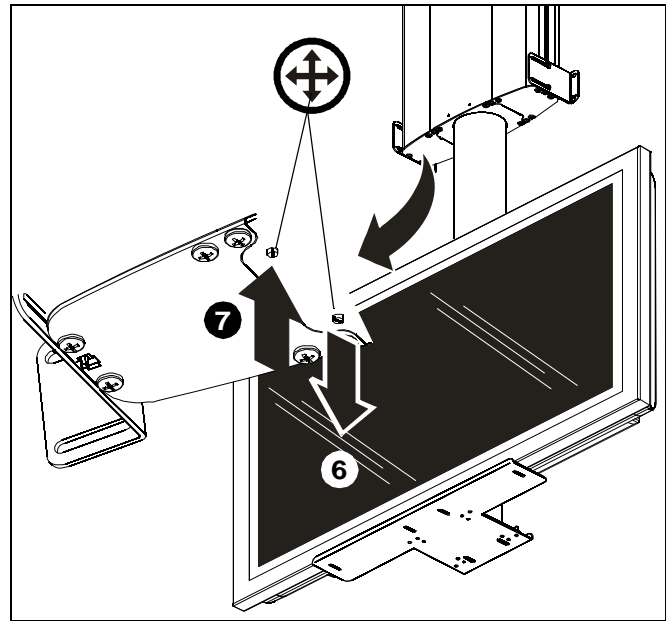
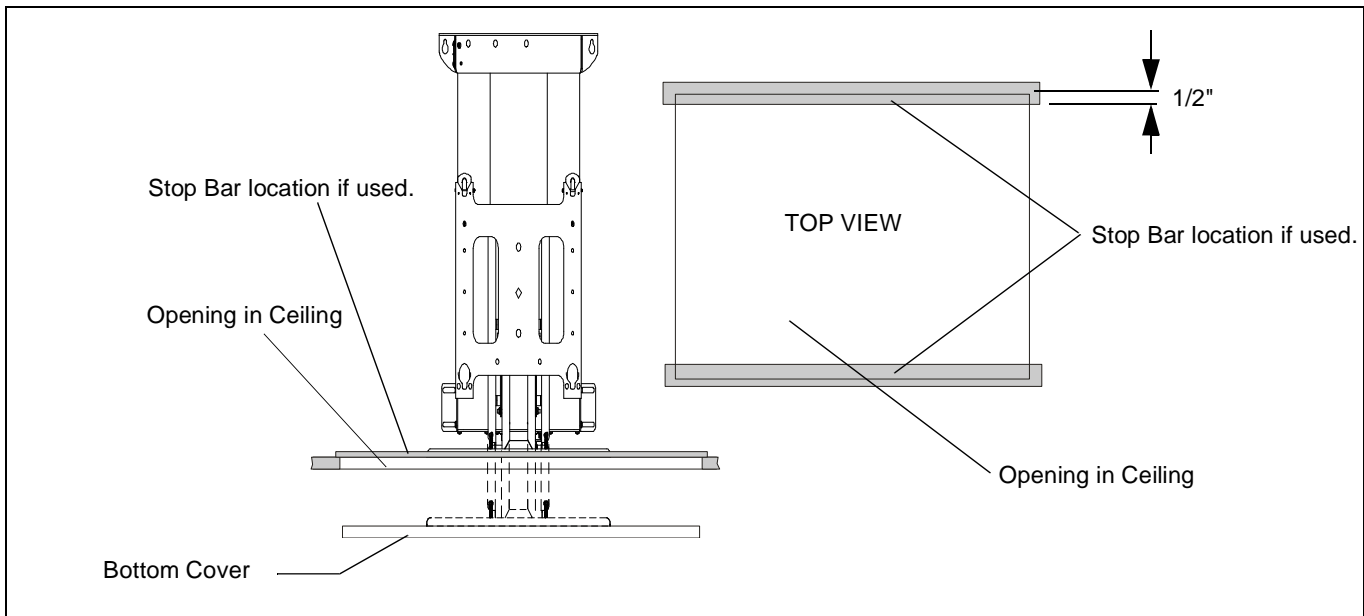

Figure 26
Figure 27
of travel must be considered when location the mount and a stop bar must be installed along the top edge of the opening in the ceiling. The stop bar must span the entire width of the front and back openings, and protrude outward into the opening a minimum of 1/2". See *Bottom Cover Location Adjustment* on page 14 and See (See figure 27)
There is an upward travel limit adjustment screw and a downward travel limit adjustment screw located on the top right hand side of the mount. (See figure 27)
- Adjust travel until bottom cover is flush with ceiling. (See figure 26) and (See figure 27)